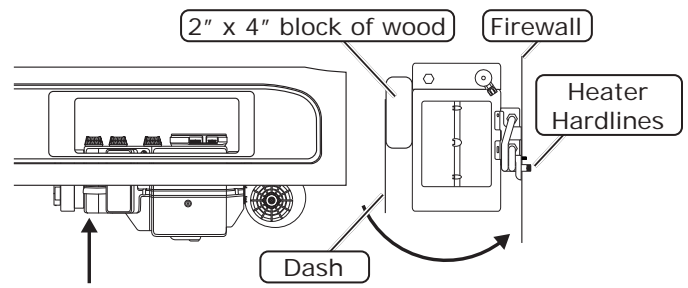

Figure 2
4. Rotate/push the left end of the evaporator unit up until the hardline ends and the 1/4-20 stud line up with the holes in the firewall (See Figure 2, below). **NOTE: Be careful positioning the heater hardlines. Forcing or jamming the hardlines against the firewall may loosen one or both of the fittings on the heater which could result in a leak. A 2"x 4" block of wood may be put between the dash and the evaporator unit to keep it in place if necessary (See Photo 3, below).**
6. From the engine compartment, install (2) 1/4" nylon sleeve washers and (2) 1/4-20 x 3/4" serrated flange hex bolts into the (2) open firewall mounting holes (See Photo 4, below). **NOTE: Do not fully tighten the bolts at this time.**